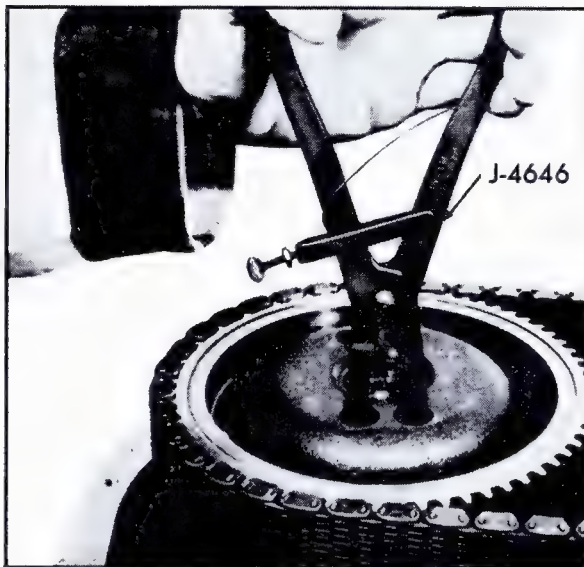

Fig. 7-213 Installing Sprocket Snap Rings
9. Install Snap Ring Pliers, J-4646, into sprocket bearing retainer snap rings, located under the drive and driven sprockets, and install snap rings into retaining grooves on support housings, Fig. 7-213.